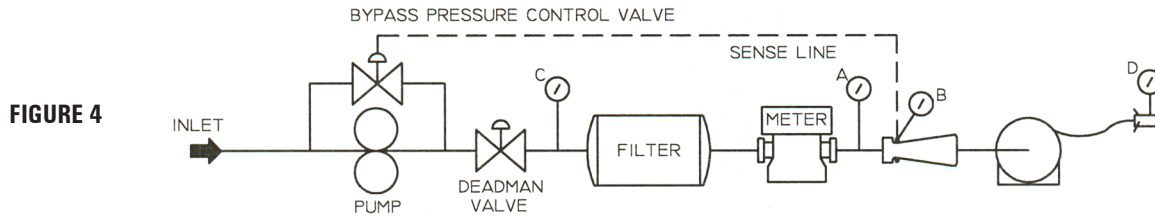

FIGURE 4
The venturi system (Figure 4) solves this problem. By locating the venturi just before the hose reel, pressure drop across the filter and meter is ignored by the pressure controller. The venturi's job is to compensate for pressure drop in the hose reel, hose and nozzle. As flow increases, the venturi "fools" the pressure control valve into delivering enough pressure so that there is 50 psi at the low pressure point (B). The venturi is "tuned" so that B and D match. Under full flow conditions, supply pressure (C) may be 90 psi and pressure at point A may be 70 psi, but pressure at the nozzle and at point B is 50 psi. When the aircraft is full and flow stops, pressure A, B, C and D return to 50 psi.